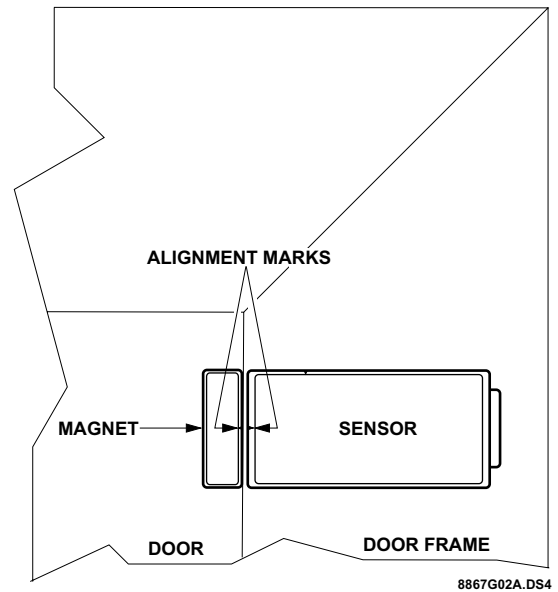

Figure 3. Mounted Sensor and Magnet
- 6) Remove the magnet from its base. Mount the magnet base no more than 3/8 inches away from the sensor base (see Figure 3). Replace magnet cover.